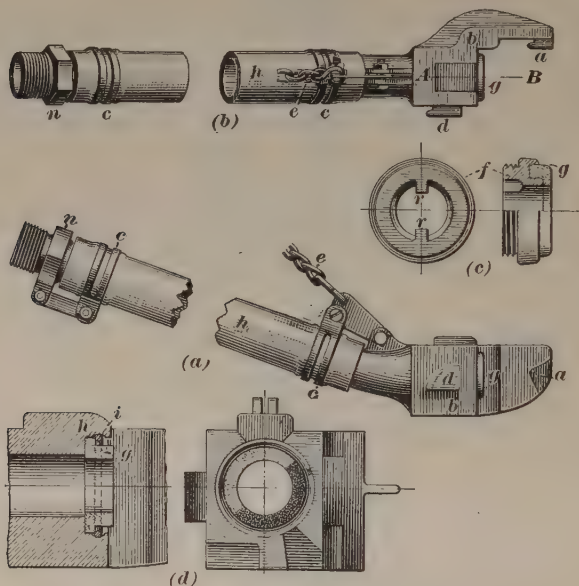

FIG. 4
5. Hose Couplers.—The hose coupler is shown in Fig. 4; (*a*) shows a side view while (*b*) represents it as seen from above. In these views, *b* is the coupler body; *h*, the steam hose; *c*, the hose collar or band; *n*, the hose nipple; and *g*, the gasket, which, coming in contact with a similar gasket in the adjacent coupler on the next car, makes the coupler joint steam-tight.